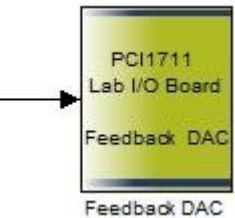

Figure 29 Feedback DAC Block
- There is one input to this block. The block reads the value from this input and sends it to the analogue output of the PCI-1711U card (Figure 29).